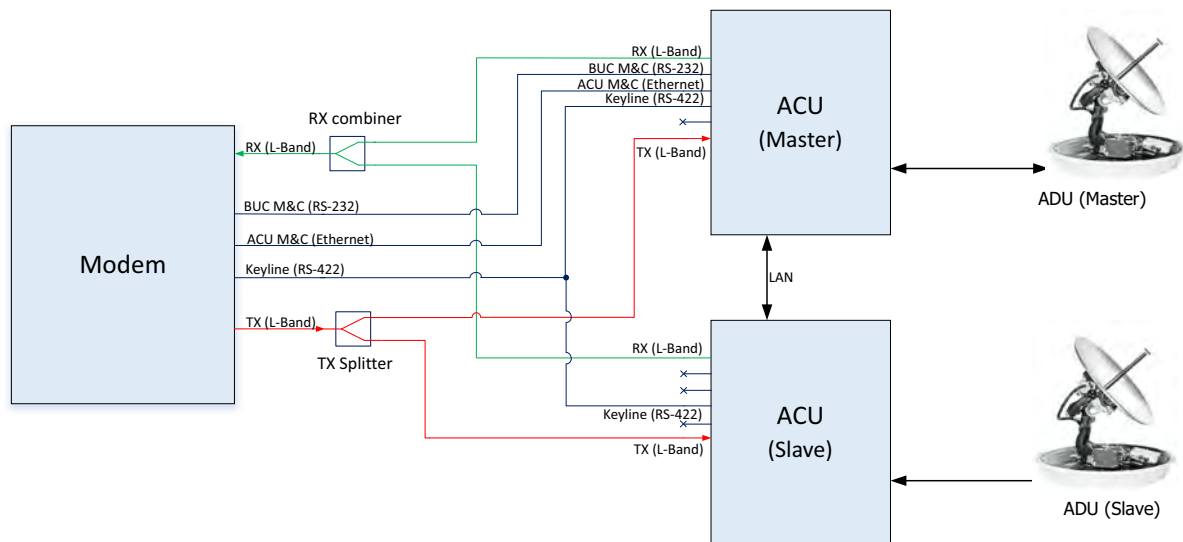

Figure B-2: ADS connection diagram
1. Install the Master ADU, ACU, the RX combiner and the modem as shown in **Figure B-2: ADS connection diagram**.
2. Install the Slave ADU, ACU, the TX splitter as shown in **Figure B-2: ADS connection diagram**.
4. Connect the cables as shown in **Figure B-2: ADS connection diagram** and in the following table.